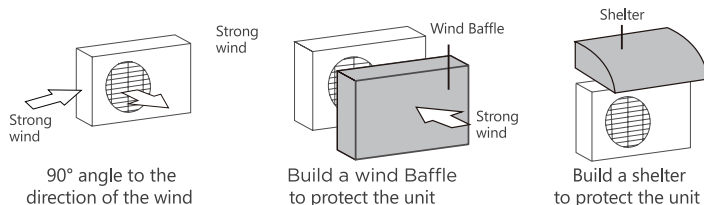

Fig. 2-1: High Wind Installation
Install the unit so that the air outlet fan is at a 90 ° angle to the direction of the winds. See Fig. 2-1.
1. Select the installation location of the outdoor unit following the installation requirements. To prevent high wind exposure, install the outdoor unit with the air inlet side facing the wall (see Fig. 2-1).